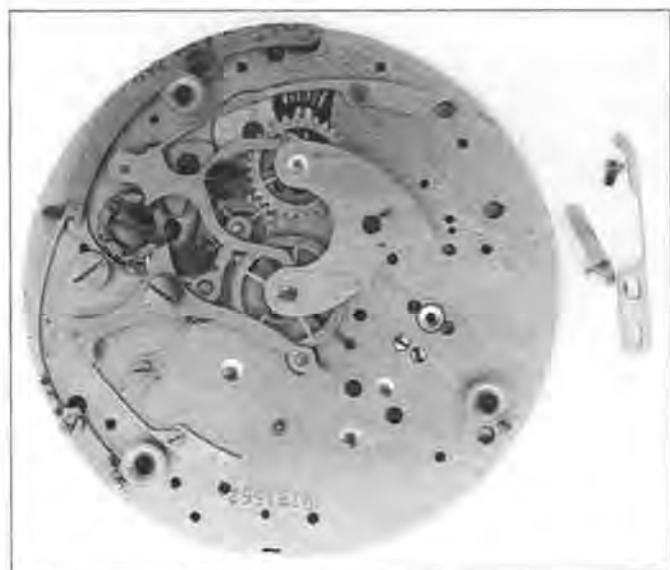

Figure 3
Step 1. Remove the minute register pawl and its spacer. These are held down with a screw. The spacer fits between the base of the pawl and the watch plate. The base of the pawl can be moved back and forth on the spacer to increase or decrease the active length of the pawl for adjustment purposes. Figure 3 shows the watch movement and the minute register pawl and its spacer after their removal.